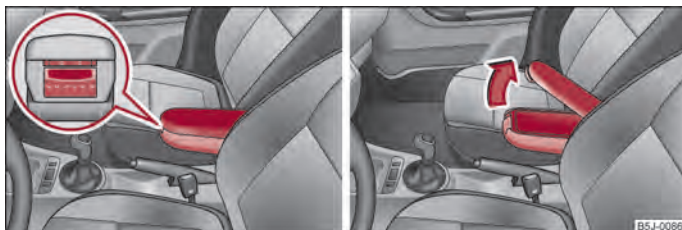

Fig. 69 Armrest: Storage compartment/open storage compartment
- Press the bottom button on the face end of the armrest ⇒ fig. 69 on the left. Fold the armrest forwards and release the button.
- Press the top button and fold up the cover of the storage compartment ⇒ fig. 69 on the right.